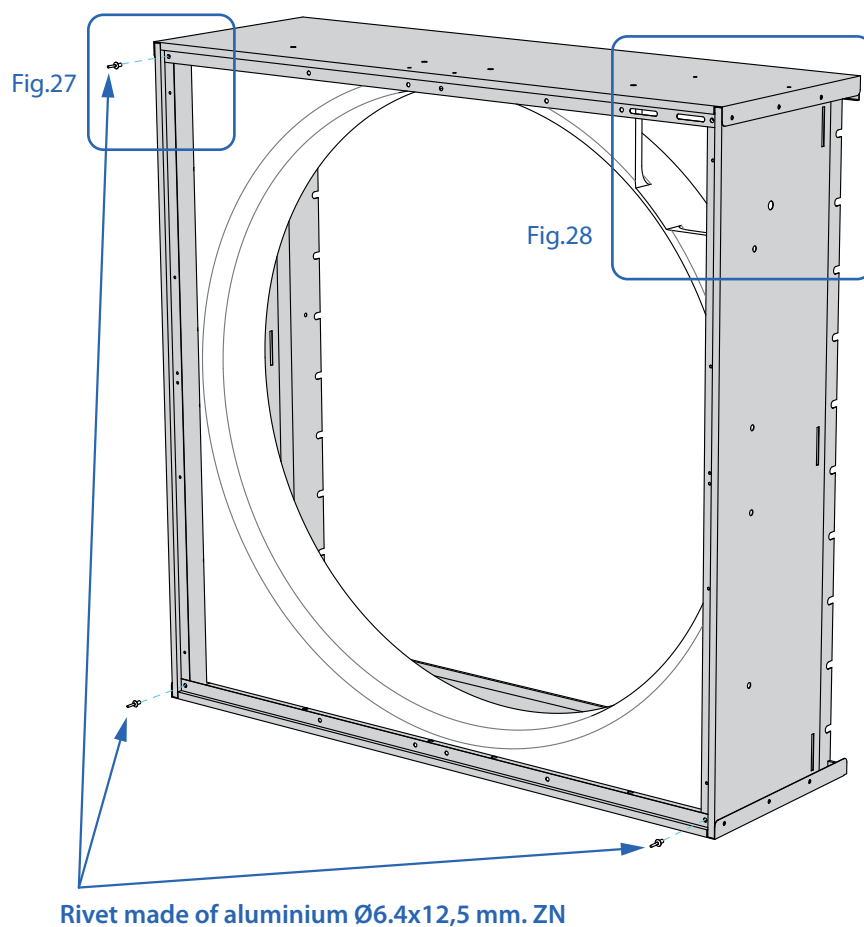

Fig. 26. Position of the rear rivets.
- Put the rear rivets [11] (Fig.26).